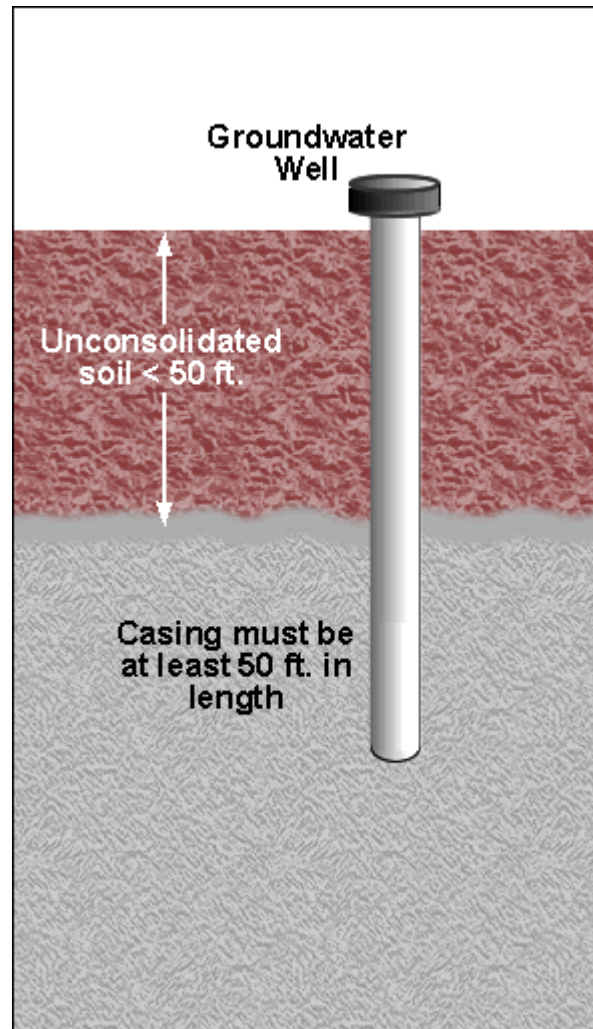

Figure 3.9b
- ☑ Where depth of unconsolidated material is less than 50 feet, a minimum of 50 feet of casing is required (Figure 3.9b).